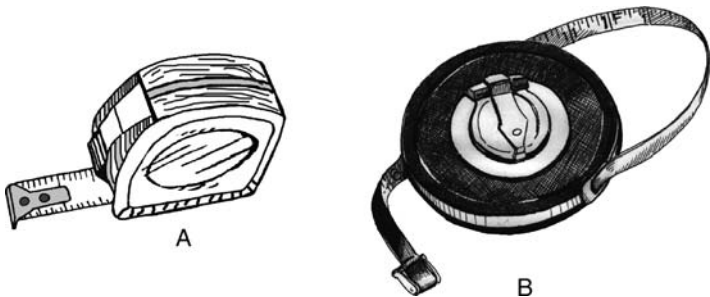

Figure D.8 A, Metal tape measure. B, Cloth tape measure.
- Tape measures: metal (25 ft) and cloth or fiberglass (50 ft) (see Figure D.8)